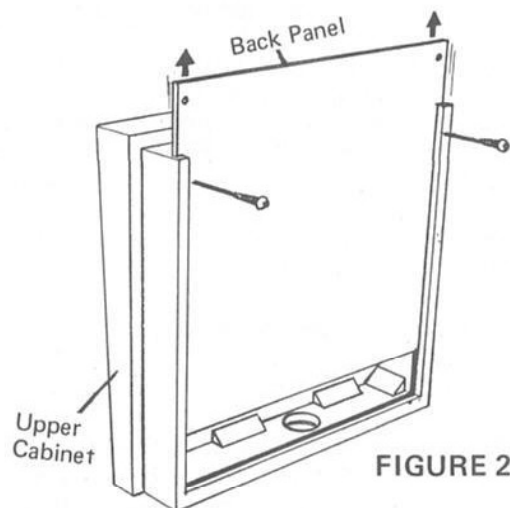

FIGURE 2
7. Remove the two screws from rear or upper cabinet as shown in Figure 2. Slide the back panel up and out of the grooves as shown. Set back panel aside.